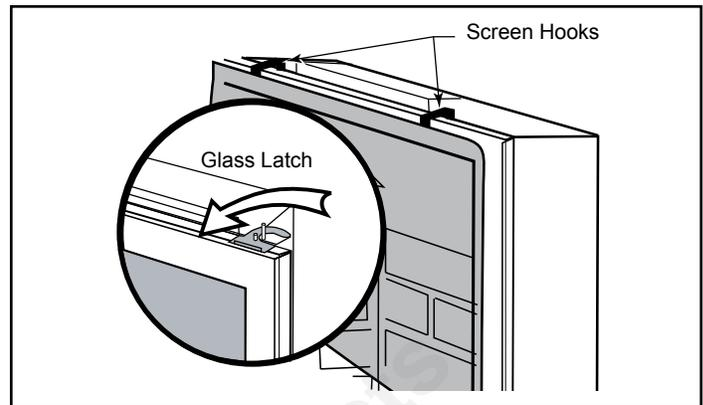

Figure 16 - Remove the screen or glass panel.
3. Remove the screen by lifting up and away from the unit. Or, if so equipped, remove the glass panel by rotating the two cams toward the front of the firebox. Lift the panel up and off of the firebox frame. (Figure 16)